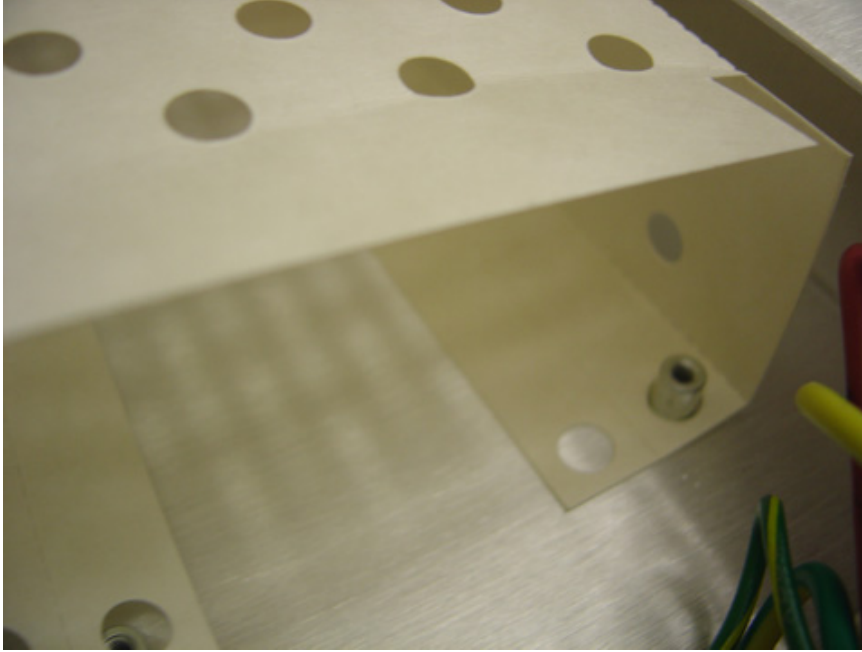

Figure 6 Protective Cover Started
10. Install the new power supply module and protective cover, noting the correct orientation of the connectors. It is easiest to place the long side of the protective cover closest to the chassis wall first, as shown in Figure 6.